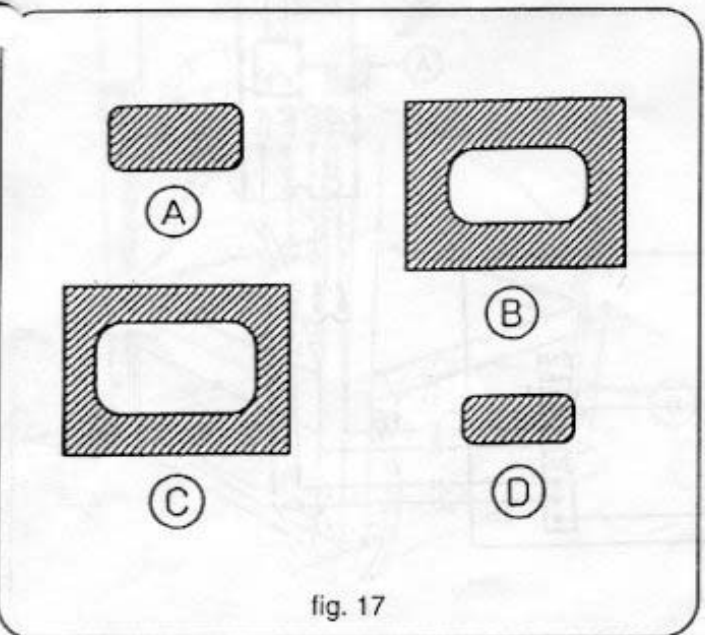

fig. 17
Since it may be complicated at times to cut a profile as described above, we recommend following the procedure described below (fig. 17):
- Create a pattern identical to the finished piece desired (part A or B fig. 17) out of aluminium, plastic or sheet metal 2-3 mm thick.